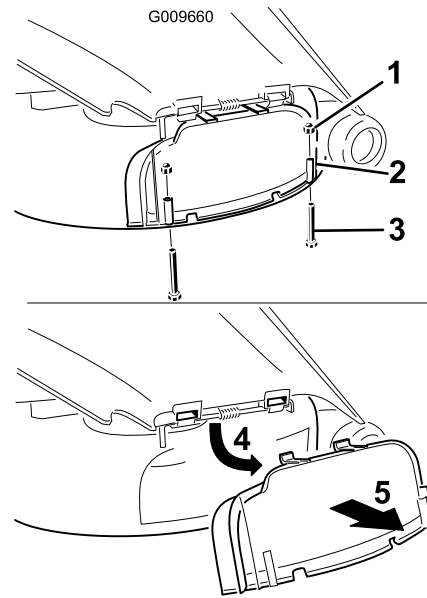

Figure 23
3. Remove the 2 bolts and nuts that secure the discharge cover to the mower (Figure 23).